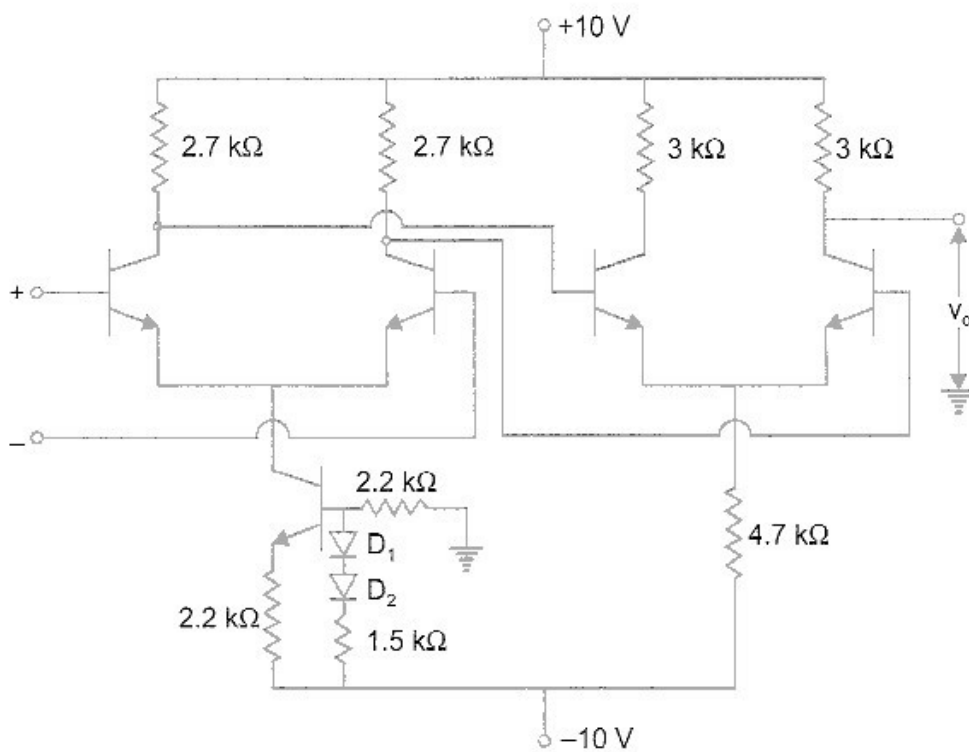

Fig. P. 2.21
2.21. For the cascaded differential amplifier shown in Fig. P. 2.21 (i) perform the dc analysis and (ii) calculate the overall voltage gain. Assume $h_{fe} = 100$, $V_{BE} = V_D = 0.7\text{ V}$.